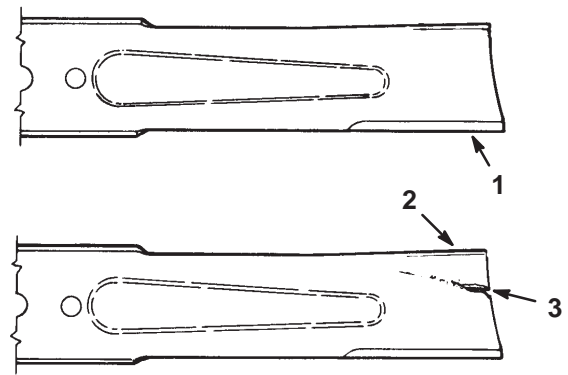

Figure 44
1. Inspect the cutting edges (Fig 44). If the edges are not sharp or have nicks, remove and sharpen the blades. Refer to Sharpening the Blades on page 35.
2. Inspect the blades, especially the curved area (Fig. 44). If you notice any damage, wear, or a slot forming in this area (item 3 in Fig. 44), immediately install a new blade.